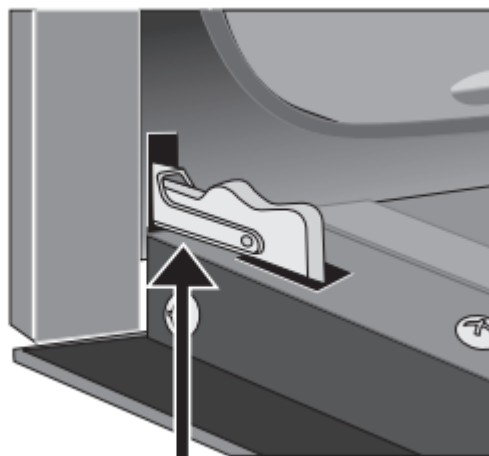

Figure 30: Door hinge locked
4. Push the door hinge locks up toward and into the oven frame on both left and right oven door hinges to the locked position (Figure 30).